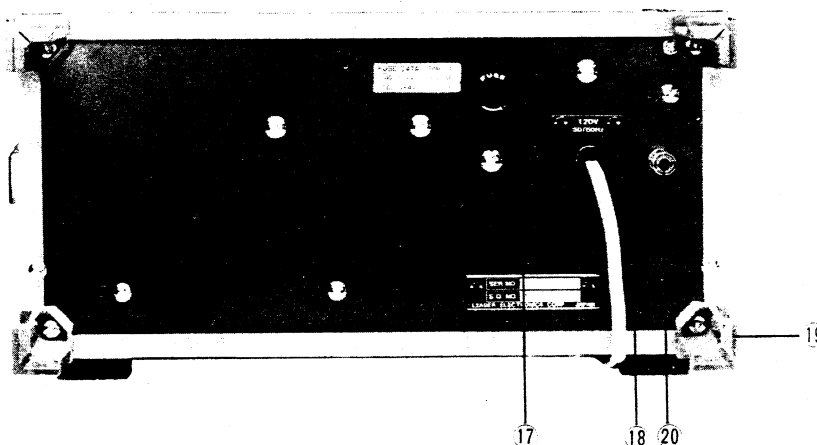

Fig. 3-2
3.2 **Rear Panel (Fig. 3-2)**
⑰ **Fuse**